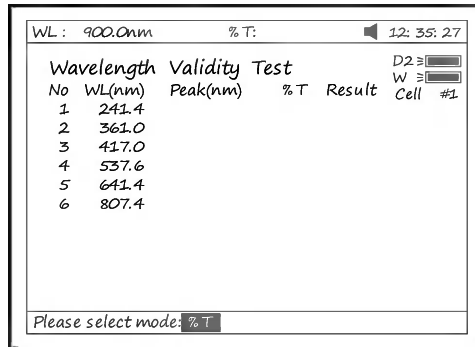

Fig 97
- Press **[F2]** to select test mode (Abs or %T, Fig 97).